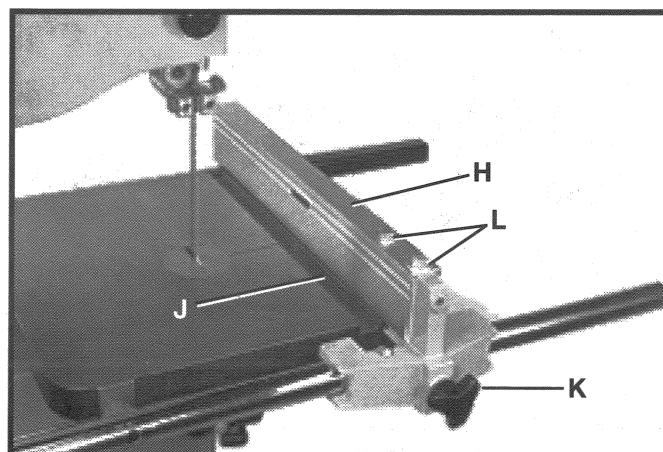

Fig. 6
7. Position the fence assembly (H) Fig. 6 at one edge of the miter gauge slot (J). Tighten knob (K). Check to see that the fence assembly is parallel to the miter gauge slot. To adjust, loosen the two hex head screws (L) and move the fence assembly until it is parallel to the miter gauge slot. Tighten the screws (L).